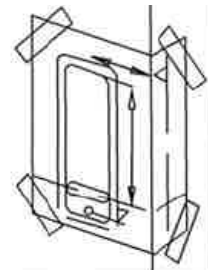

Figure 1
- Correctly position and tape the template, T/048/SBL340, to the internal door face, at the desired height from the floor level. Ensure that the marked door edge on template is correctly aligned with actual door edge. (Figure 1)